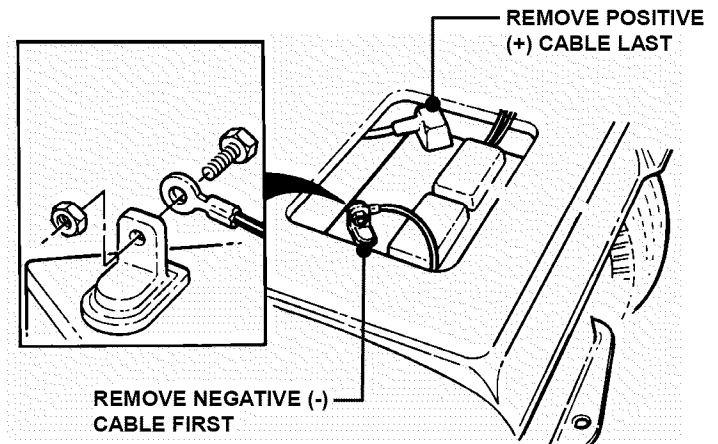

FIGURE 4.38
6. Remove battery. See Figure 4.38.
Cables must be connected to battery terminals in the proper position as shown in Figure 4.38. DO NOT attempt to charge battery while installed on tractor. DO NOT use "BOOST" chargers on the battery.